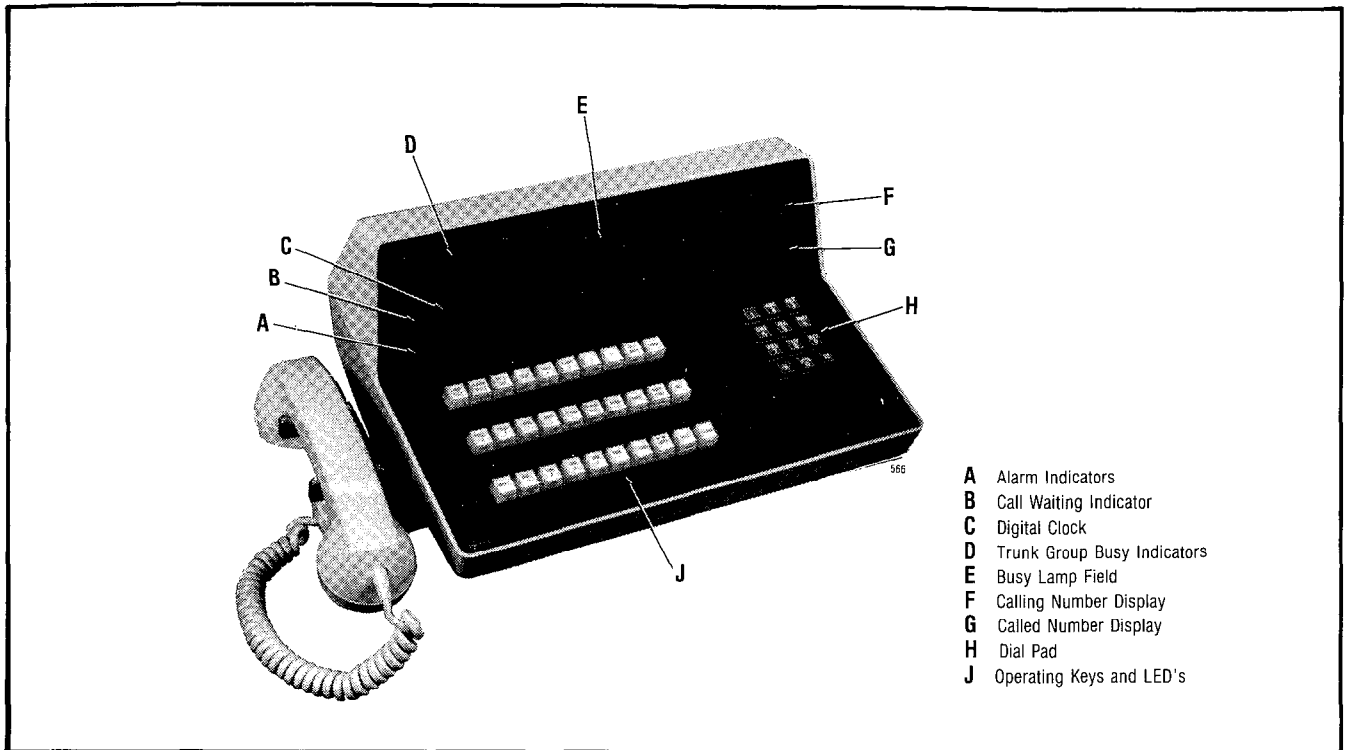

Fig. 2-1 Programming and Maintenance Console
2.01 The SX-100/SX-200 console (Fig. 2-1) may be used as a programming and maintenance console by servicing personnel or by the attendant. Where a separate dedicated console is not used, the attendant's console may be employed. The main items used in its construction are as follows: